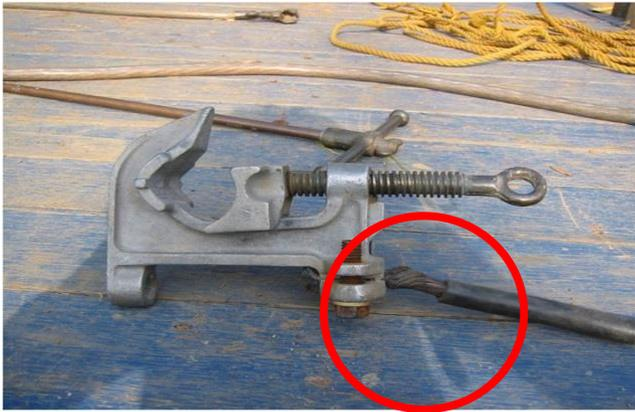

Fig. 4
- 12) Inspect grounds before using them. ASTM F2499 [7] provides guidance on the proper inspection and testing of ground clusters. Figure 4 is a common problem found on ground sets. In Figure 4, the cable is oxidized, the strands are exposed to damage, etc. Some of the other reasons why ground sets may get damaged or become ineffective are: human errors, lightning strikes, static build-up, induced voltage feedback from adjacent circuits, mechanical or equipment failure, switching errors, stored charges from capacitors, faulty automatic re-closing devices, corrosion, contact with chemicals, accidental pinching, mishandling, etc.